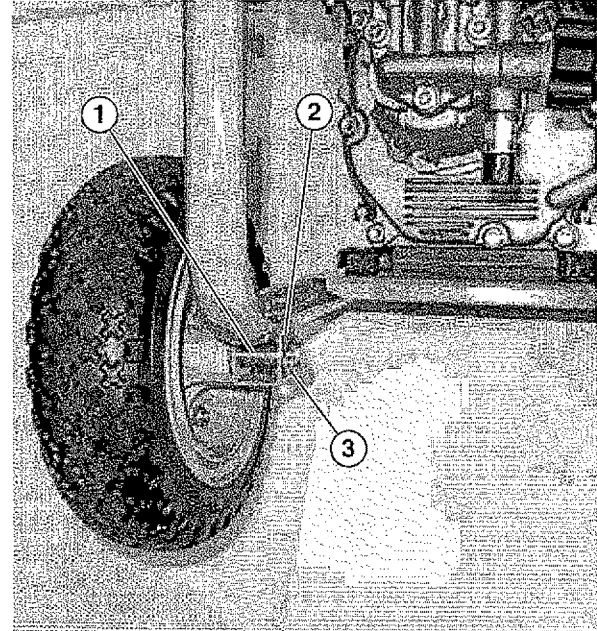

Figure 20 – Installing Wheel Axle Washer
5. Install the pin through the axle mounting holes. Install a washer on the axle pin (see Figure 20).
6. Secure the wheel axle pin in position with the wheel axle lock pin (see Figure 20).